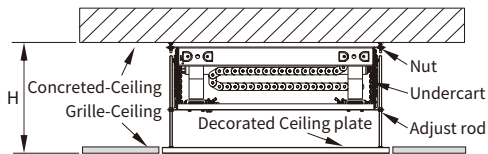

Figure 3 Standard ceiling installation
A. If $H < H1$ (Supposed it's Maximum H2), can install project lift on the Concreted-Ceiling directly Check Figure 3.